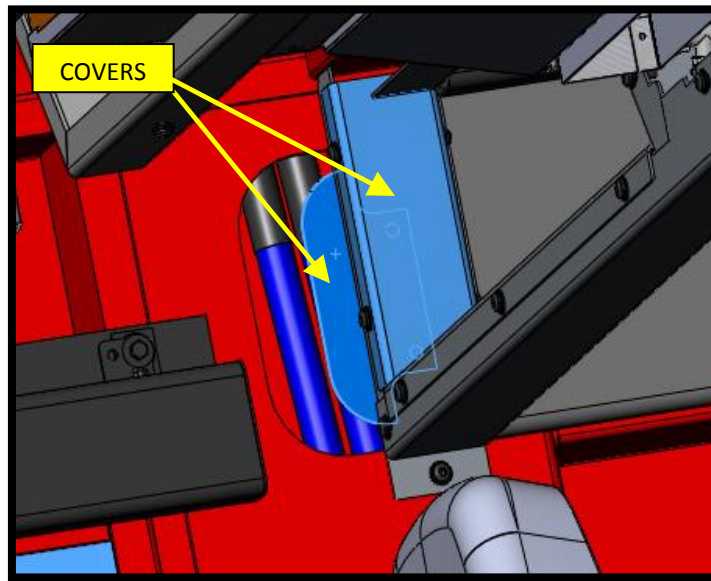

**FIG. 7-2**
12. Remove trim located above officer side, front seat and retain along with all hardware for later reinstallation. Refer to FIG. 7-2.